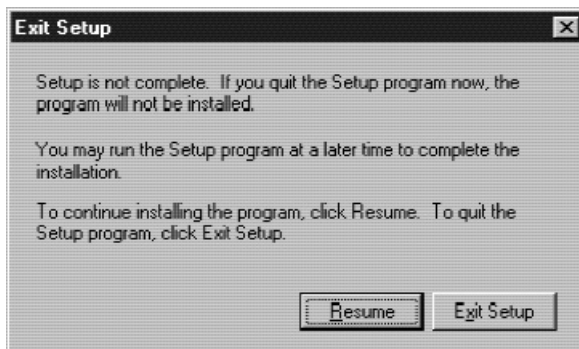

Fig. 5
- To resume the installation, click the **Resume** button. (Fig. 5)